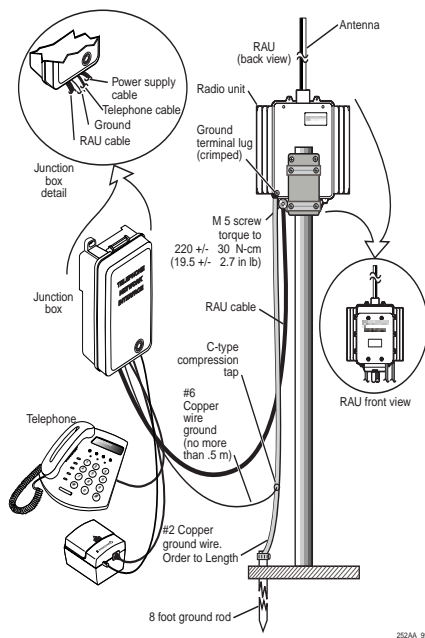
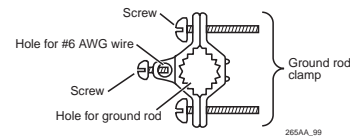
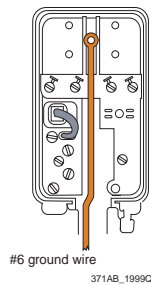
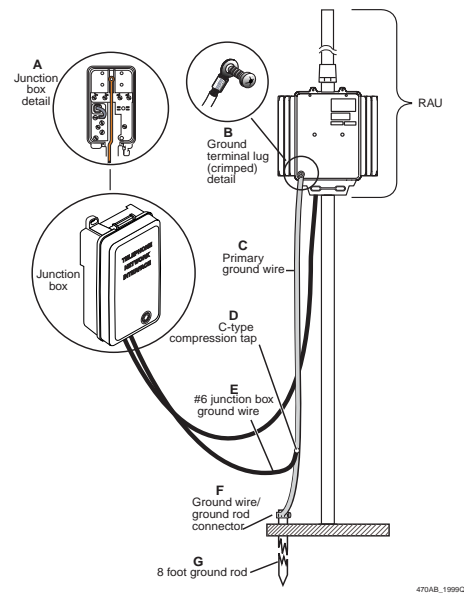

Figure 15. Attach primary grounding cable to RAU
Figure 16. Ground wire/ground rod connector
Figure 17. Ground the junction box
Figure 18. Grounding elements
If the RAU is mounted on a metal pole whose lower end is buried deep in the ground, run the primary grounding cable directly from the RAU and bolt it to the pole. (See Figure 15 for details.)
1. Secure the primary grounding cable to the RAU ground lug as shown in Figure 15. (The ground terminal lug is shown as B on Figure 18.)
2. Secure the primary grounding cable to ground rod using clamp shown in Figure 16. (The clamp is shown as F on Figure 18.) Tighten the large screws until the clamp is fastened securely to the 8 to 10 ft. ground rod.
3. Connect the #6 ground wire to the junction box ground terminal, shown in Figure 17. Ensure that the ground rod allows for a 0.5 meter (1.5 foot) maximum cable length between the junction box ground terminal and point of connection to the primary ground cable. (The point of connection is shown as D on Figure 18.)
4. Connect the free end of #6 grounding wire to primary grounding cable. To accomplish this, use a C-type compression tap and crimping tool to secure primary grounding cable to #6 grounding wire. The length of the primary grounding cable from the #6 ground wire C-type compression tap to the ground rod (between points D and F in Figure 18) should not exceed 3 meters (10 feet) in length
For almost all installations, QUALCOMM recommends using #6 AWG copper grounding cable for the RAU ground cable and for the ground wire securing the junction box grounding screw to the RAU primary ground cable (see Figure 17 on page 22). An C-type compression tap is recommended to bond the junction box ground wire to the RAU primary grounding cable. The junction box ground wire should be as short as possible.